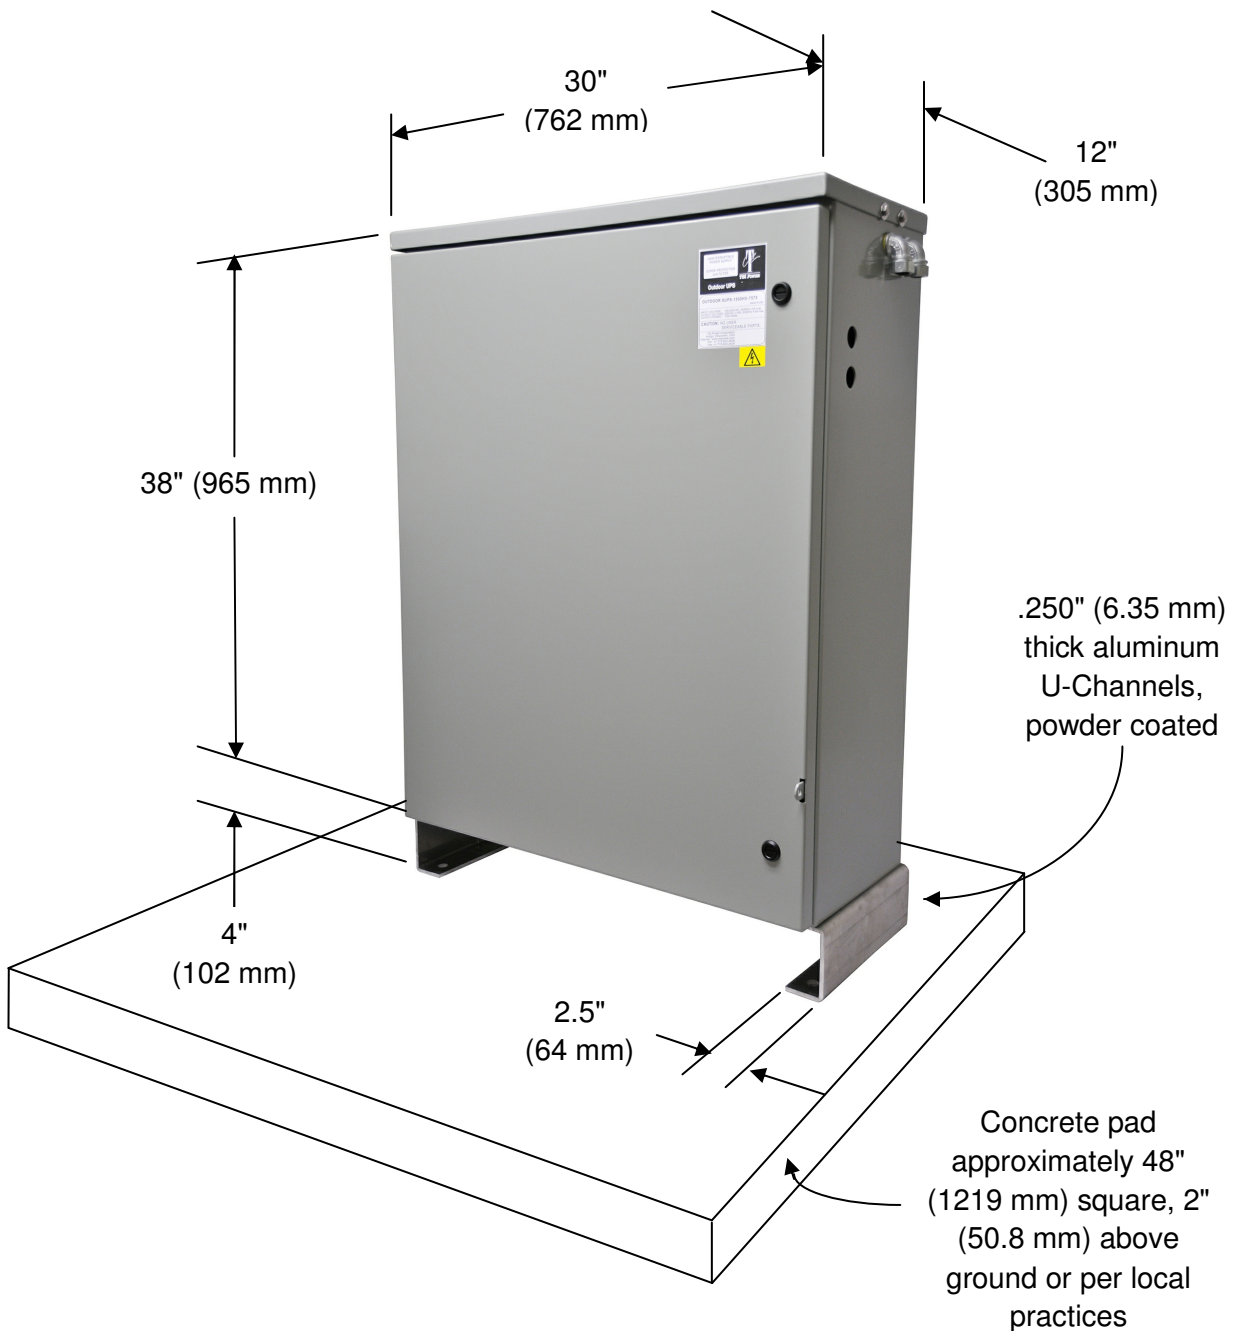

Figure 14: Pad-Mounting the XUPS-1500HV-7575
3.1 Type Pad-Mount - The XUPS-1500HV-7575 is primarily intended to be pad mounted (see Figure 14).
- 3.12 Prepare ground surface and pour concrete pad per local company practices and to approximate size as shown in Figure 14. If composite pad is used, follow manufacturer's instructions.